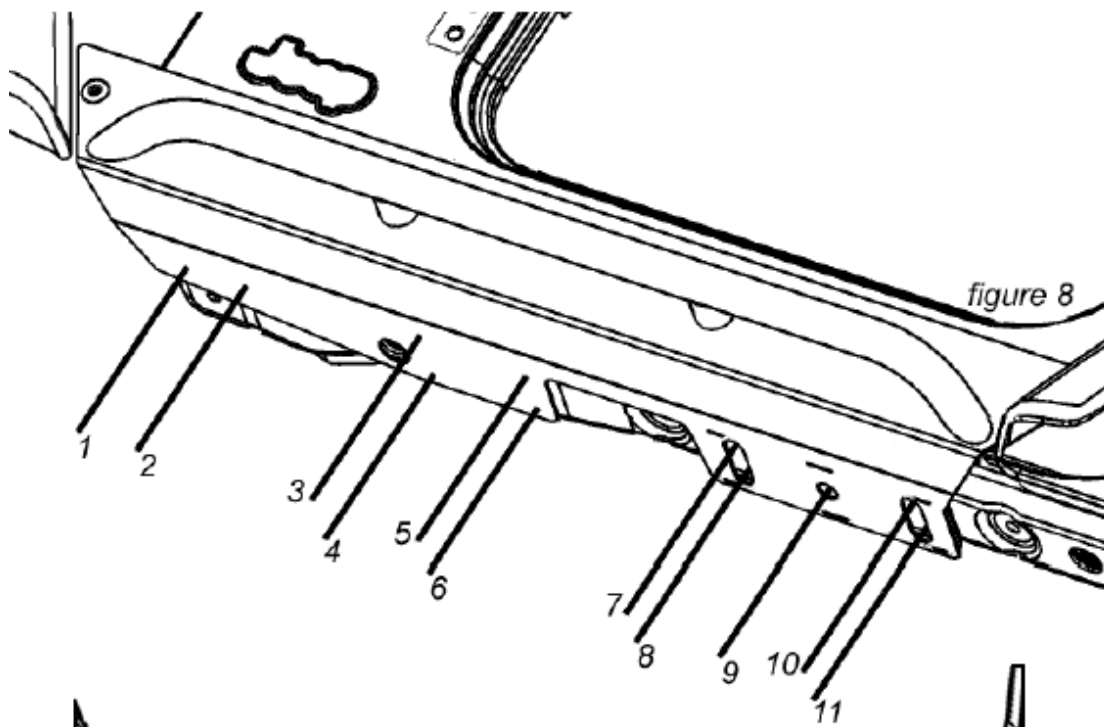
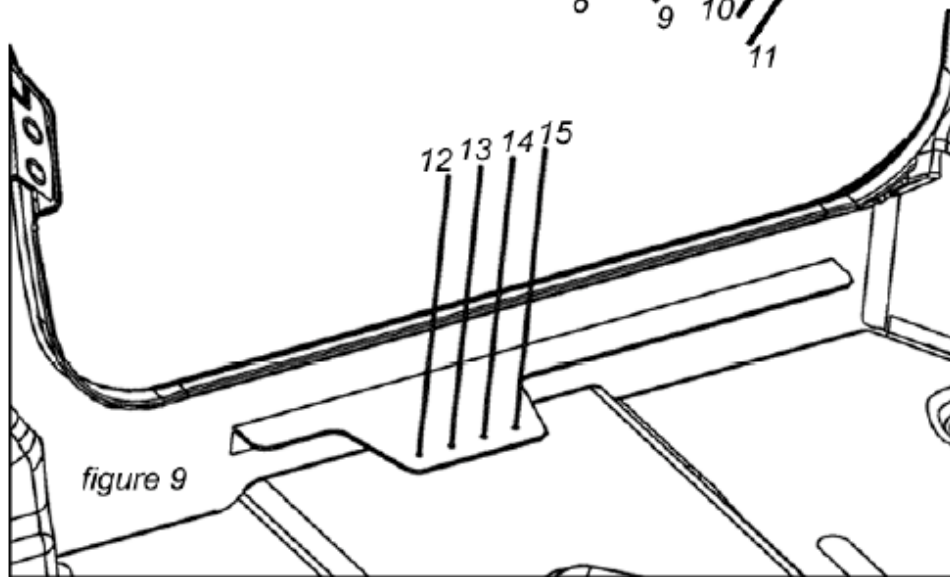

figure 8
figure 9
16. Using the 3/16" drill bit, drill holes #1-15 as shown in Fig. 8 & Fig 9.